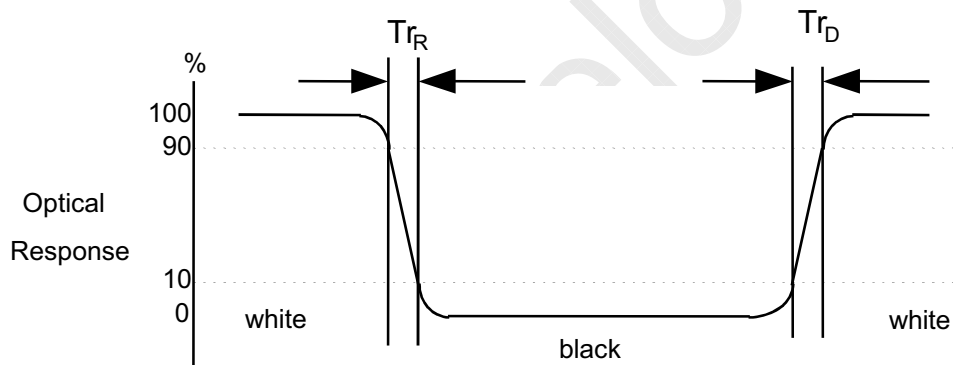

FIG. 4 Viewing angle
| Viewing angle | Horizontal | Θ | $\phi x(\text{Left,Right})$ | ± 70 | - | ° | Fig 4 |
- Viewing angle is the angle at which the contrast ratio is greater than 10. The angles are determined for the horizontal or x axis and the vertical or y axis with respect to the z axis which is normal to the LCD surface. For more information see FIG 4.